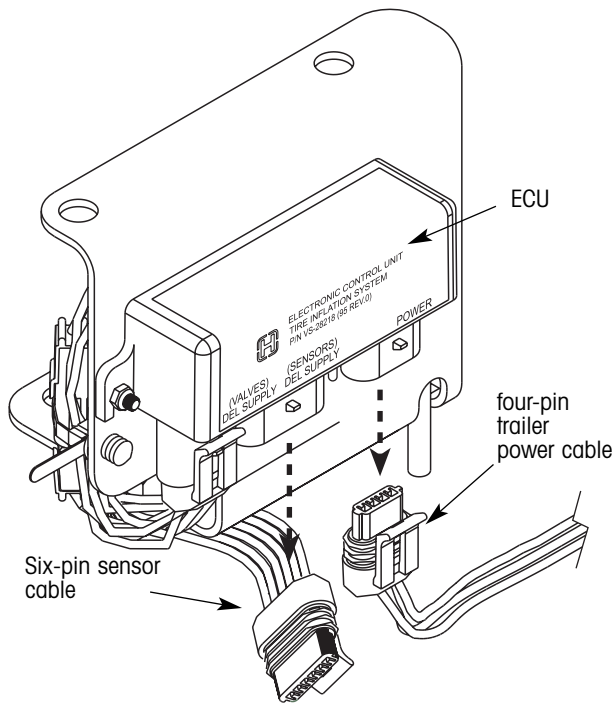

Figure 1. Unplugging the power and sensor cables
3. Unplug the four-pin trailer power cable from the controller assembly ECU (figure 1).
4. Unplug the six-pin sensor cable from the controller assembly ECU (figure 1).